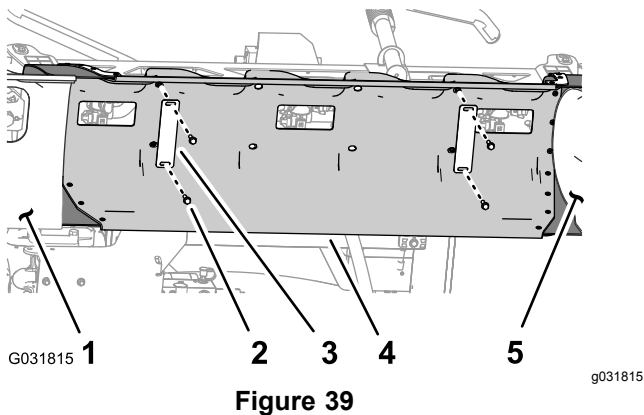

Figure 39
1. While supporting the center section cover (11 nozzle), remove the 4 flange-head bolts (5/16 x 1-1/4 inches) and 2 cover straps that secure the cover to the cover-support bracket (Figure 39).